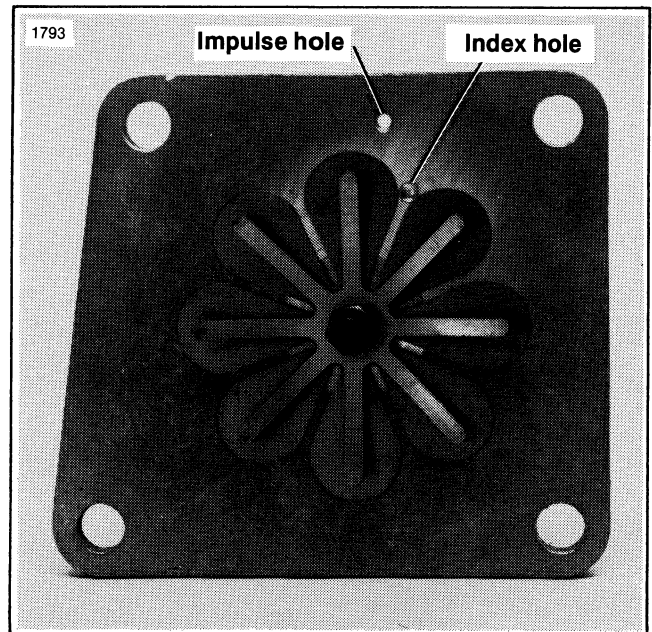

Figure 6-15. Reed Valve Position
1. See Figure 6-15. Position leaf (8) on side of plate with index hole used for positioning the leaf petals. Align the leaf so the hole is in between the petals.
2. Center the reed stop (7) over the leaf petals. Make sure there is no gap between the stop and leaf. The leaf must lie flat on the plate.
3. Apply a small amount of Harley-Davidson LOCK N' SEAL, Part No. 99625-77 to the screw (6) threads. Install the lockwashers (5) and nut (4). Tighten the nut to 25-30 in-lbs (635-762 kmg) torque.
4. Install the reed valve and gaskets (3) with the leaf facing into the crankcase.